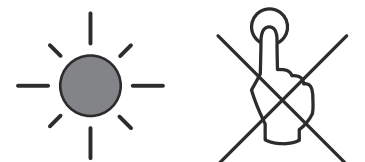

Fig. 57
2. The busy LED will start to flash continuously, as shown in **Fig.57** (this will continue to flash until the end of the initialisation process).